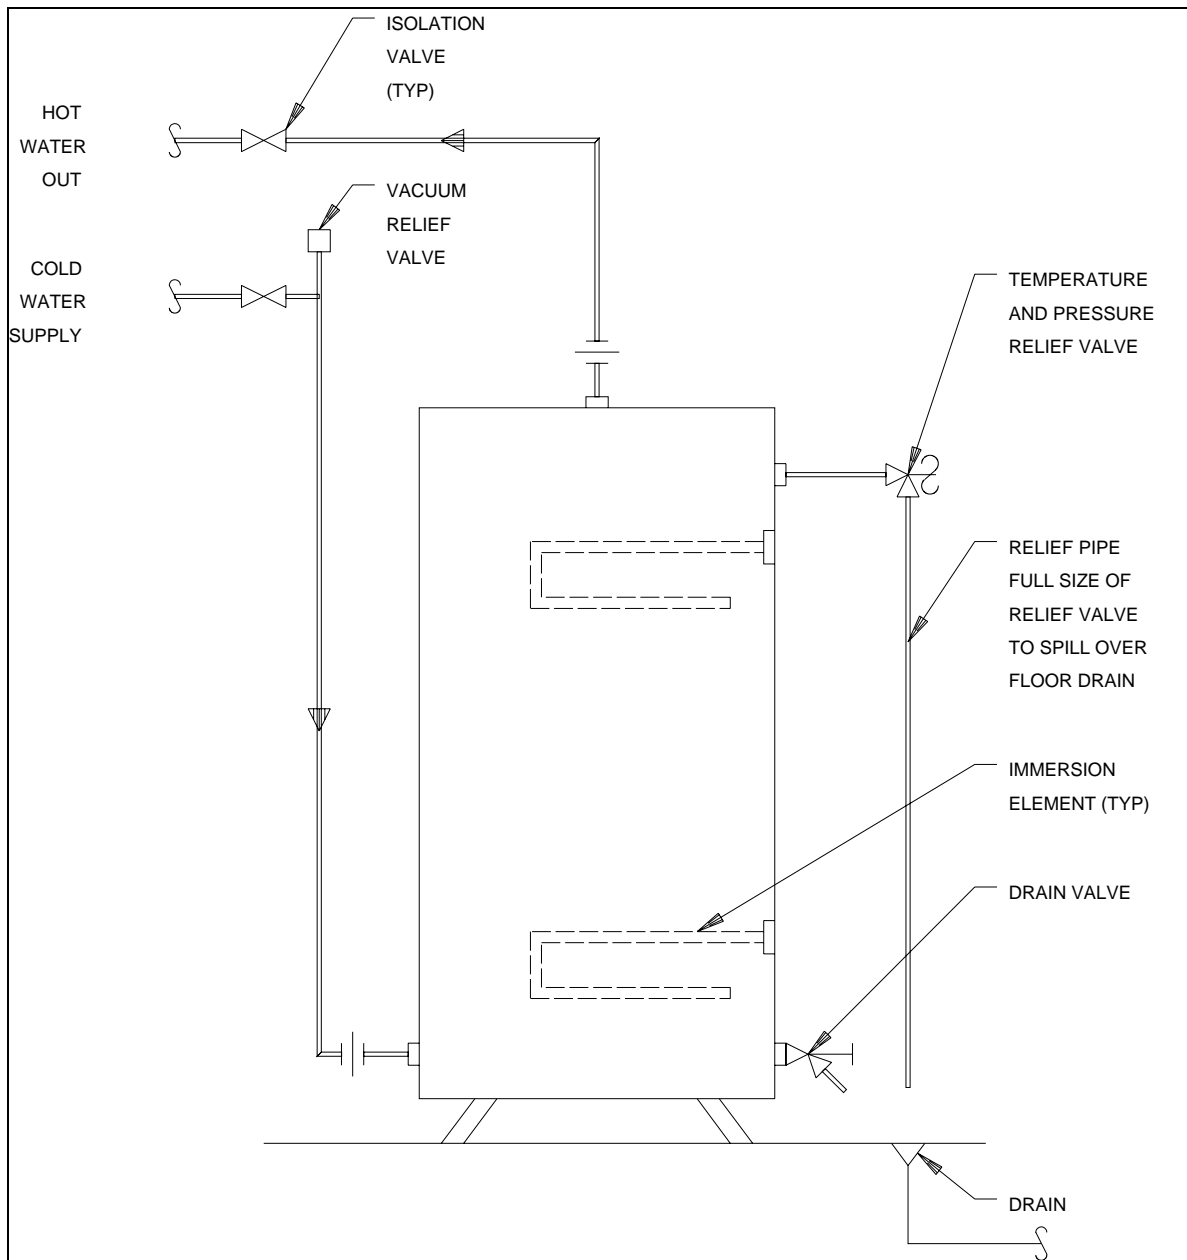

Figure 17-3. Electric water heater
b. Water heaters. The purpose of the domestic water heater is to provide hot water at the desired temperature to the plumbing fixtures and to any other point of use. System water temperatures range from 120 to 140°F for typical plumbing fixtures, up to 165°F for laundry, and 180 to 190°F for dishwashing and sanitizing applications (see figures 17-3, 17-4, and 17-5).
(1) Heat energy sources include oil, propane and natural gas, electricity, and steam. Oil and gas units are generally referred to as fuel type direct-fired water heaters. Electric water heaters employ a direct conversion of electrical energy into heat. Indirect water heating is accomplished through the use of remote heat sources (usually boilers) which supply steam to the water heater. The water heater then uses steam as an energy source to heat the domestic water.
(2) Water heaters are also classified as to their storage capacity and recovery rate. The recovery rate is the amount of water in gallons per hour (gph) that can be raised +100° F at a given heat input. The storage capacity allows large volumes of hot water to be drawn from the system at flow rates that exceed the recovery capacity of the heater. Instantaneous heaters have a high recovery rate and very little storage, while storage type heaters have a lower recovery rate and significant storage capacity. A semi-instantaneous heater is a variation of the above two types, with limited storage and moderate recovery rates.